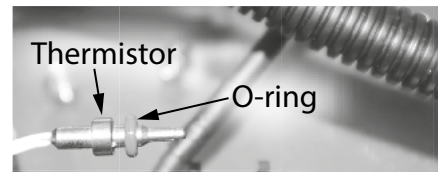

Figure 8 - Thermistor O-ring location
- 26** Locate the (3.8 x 1.9) O-ring provided in the kit. Place the O-ring over the thermistor and install it in the outlet assembly base. See Figure 8.